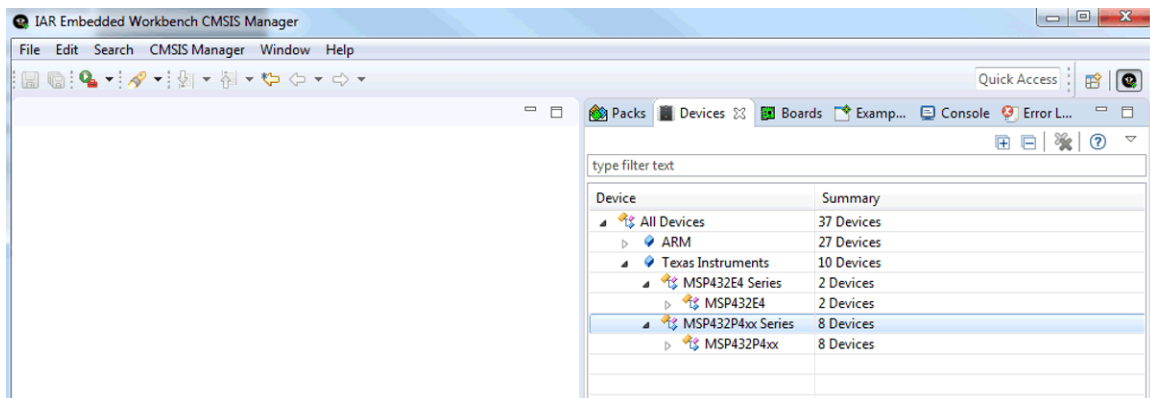

Figure 3. Select Devices
1. In a new workspace, click  to start the CMSIS manager, go to the Devices tab, select the desired device family, and go to the examples tab (see Figure 3).